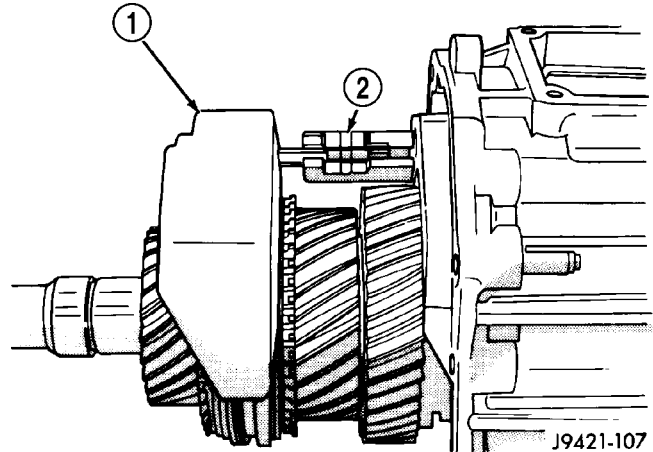

Fig. 104 3-4 SHIFT FORK
(1) Install 3-4 shift fork in synchro sleeve (Fig. 104). Verify groove in fork arm is aligned with grooves in 1-2 and fifth-reverse fork arms as shown.